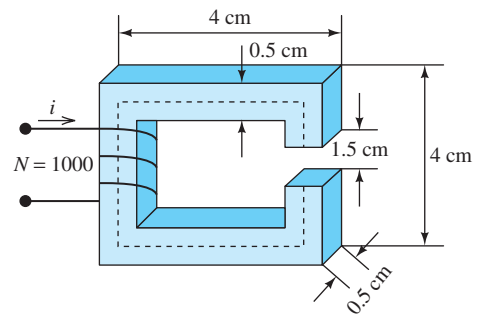

FIGURE P12.22 Magnetic circuit with air gap.
12.22 (A) Find the flux and the flux density in the gap for the magnetic circuit shown in Figure P12.22, given $\mu_{\text{core}} = 3000$ and $i = 5$ A.